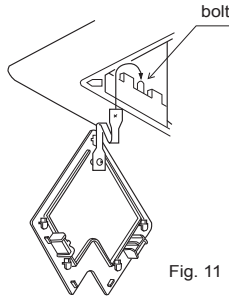

Fig. 11
- ① As shown in Fig. 11 tie the cover plate onto the bolt on ornament plate.